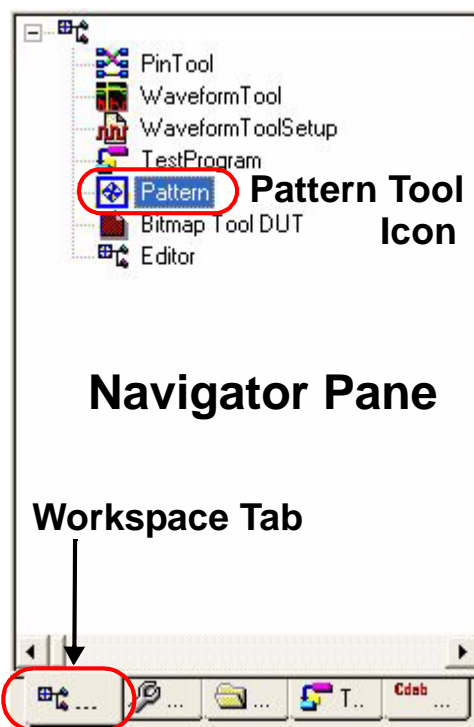

Figure 5-51. Navigator Pane's Workspace Tab
- 1 Selecting the Workspace tab  in the Navigator Pane displays its tab that contains the `Pattern` icon (Figure 5-51).